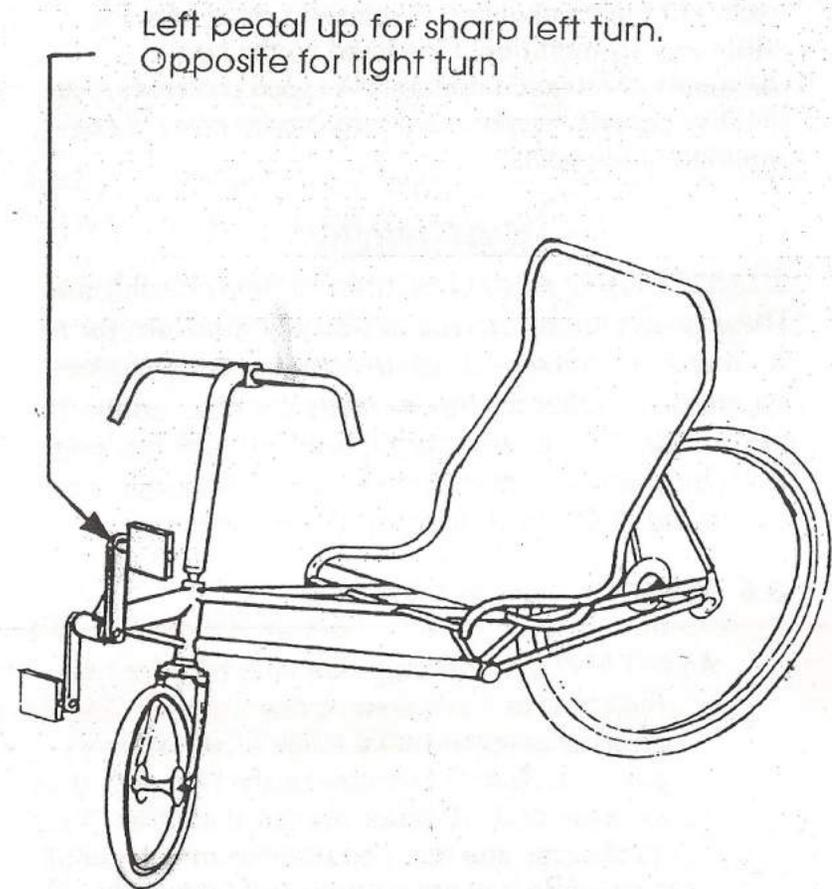

Fig. 3-1
- A) The easiest solution is to coast through the turn, and keep your foot in the up position on the side you are turning. For example: for a right turn, keep your right foot up. (See Fig. 3-1) This method requires you to have sufficient speed to coast through the turn.
- B) To make turns and apply power, have your feet as in (A) and make short 1/3 rotation, back and forth pedal strokes. This method must be used when you are starting out and turning at the same time, such as turning right after stopping at a stop sign.